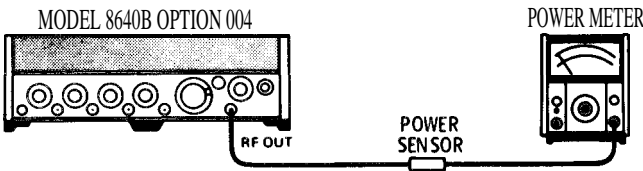

Figure 4-12. Output Level Flatness Test Setup
1. Connect equipment as shown in Figure 4-12 after setting Signal Generator's controls as follows: